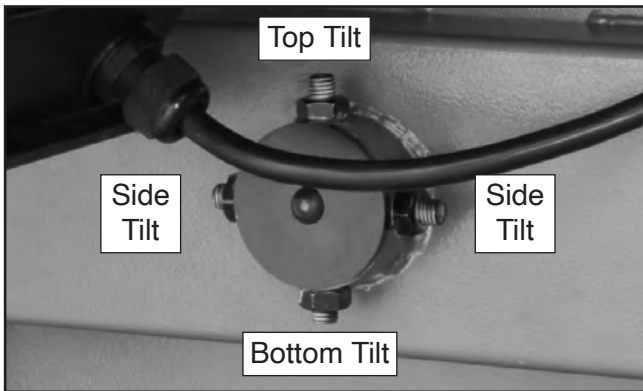

Figure 86. Lower wheel adjustment control.
7. If the wheels will go parallel but not coplanar, then move the lower wheel at the adjustment hub (see **Figure 86**) as necessary.